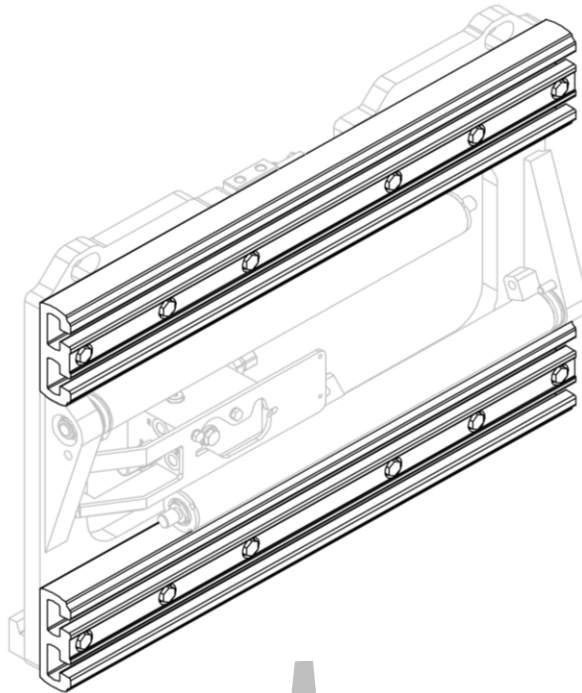
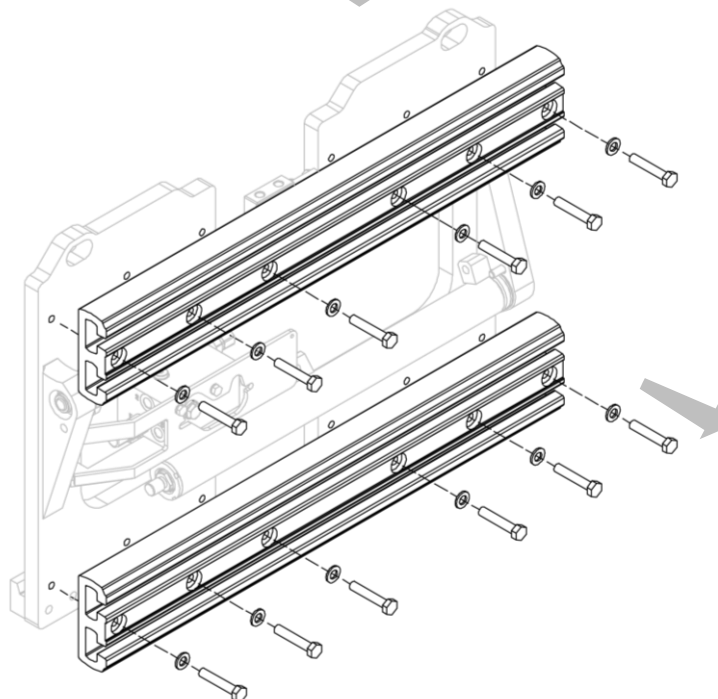

Figure 24
Figure 25
2. Remove the aluminium profiles, one at a time, after unscrewing the bolts (see *Figure 24* and *Figure 25*).